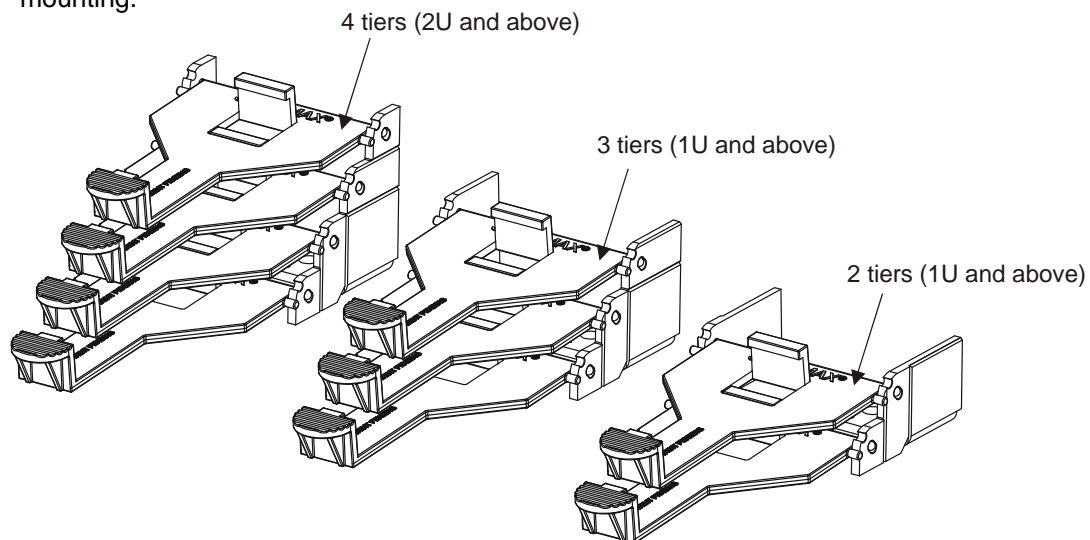

Figure 6. RoloSplice Configuration Options
2. Determine appropriate RoloSplice configuration for enclosure size (see Figure 6) and for number of splices to be stored.